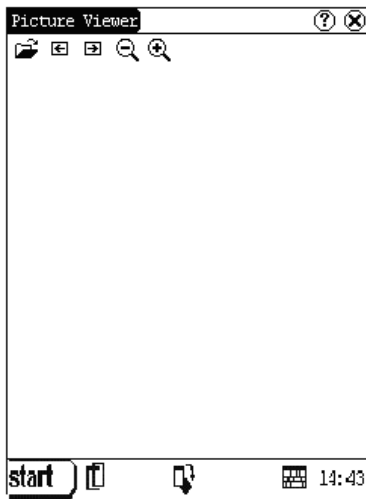

Fig 4-10
- 4) In the Picture interface, click  icon in the toolbar on the top. (See Fig 4-10)